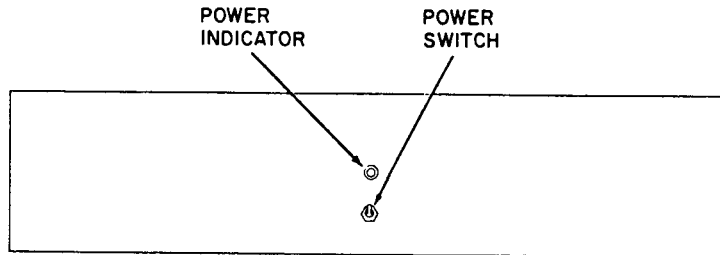

Figure 3-6. Series 4000 Power Switch Panel, Control and Indicator
1. On upper torque motor panel (figure 3-1) or on power switch panel near bottom of Series 4000 machine (figure 3-6), set POWER switch on. Check that BRAKE indicator, or power indicator, lights.